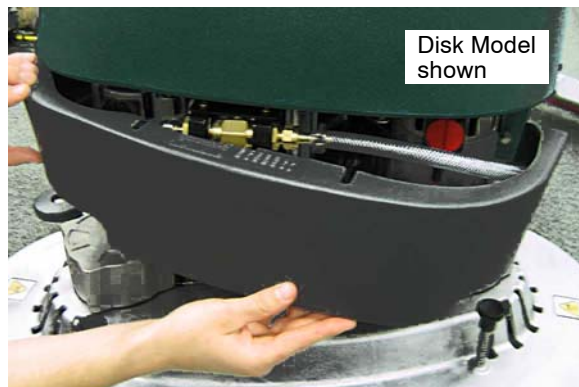

Fig. 12
13. Install the supplied scrub head shroud on the machine (Figure 12).